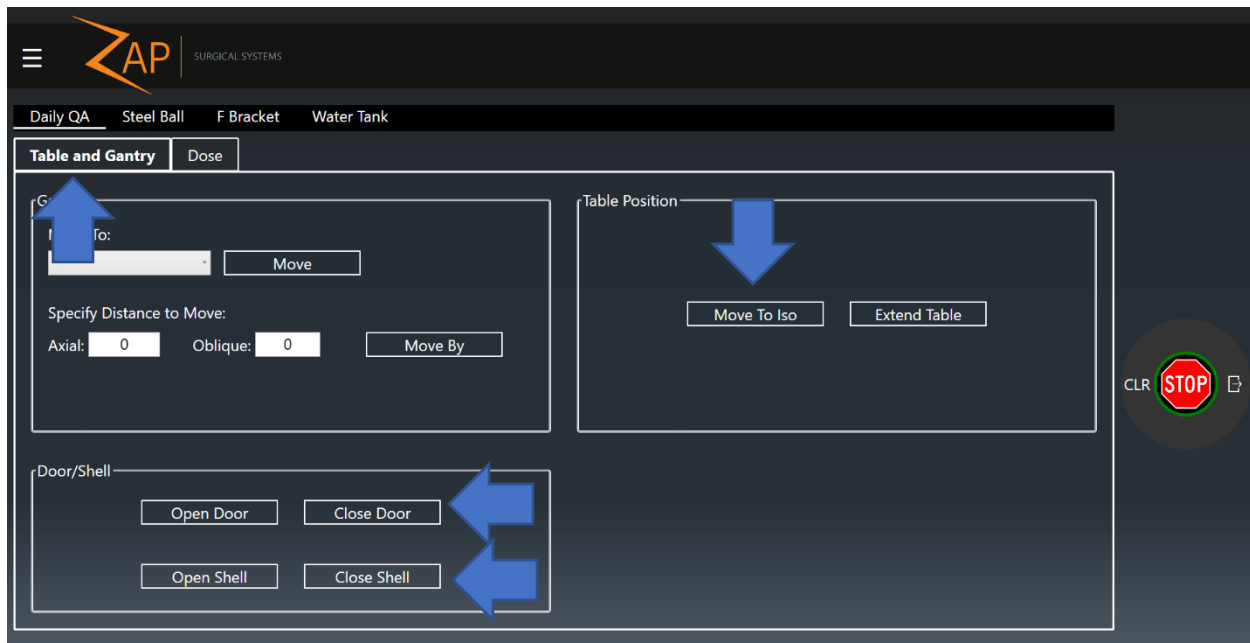

Figure 3-12. Daily QA page, Table and Gantry tab. Arrows highlight buttons to move table into the machine and close the shell and door.
7. Use the Pendant to move the couch to the iso-center position and close the door and shell. Alternatively, click on the **Daily QA** icon on the Dashboard (see Figure 3-11), then click on the **Daily QA** page and the **Table and Gantry** tab (see Figure 3-12). Click on the **Move to Iso**, **Close Door** and **Close Shell** buttons.